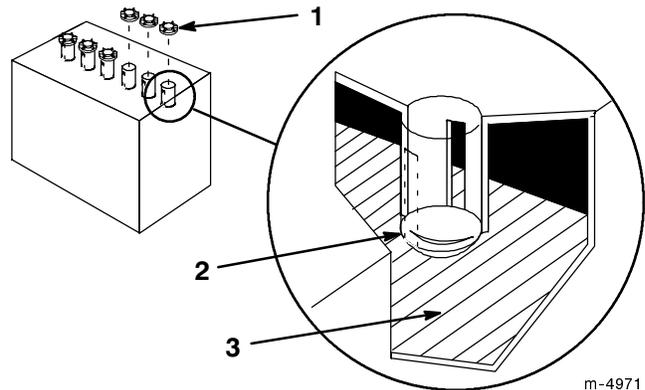

Figure 21
- Open the vent caps to see into the cells. The electrolyte must be up to the bottom of the vent well (Fig. 21). Do not allow the electrolyte to get below the plates. (Fig. 21).
3. Remove the vent caps from the battery (Fig. 21).
4. Slowly pour distilled water into each cell until the electrolyte level is up to the bottom of the vent wells (Fig. 21).